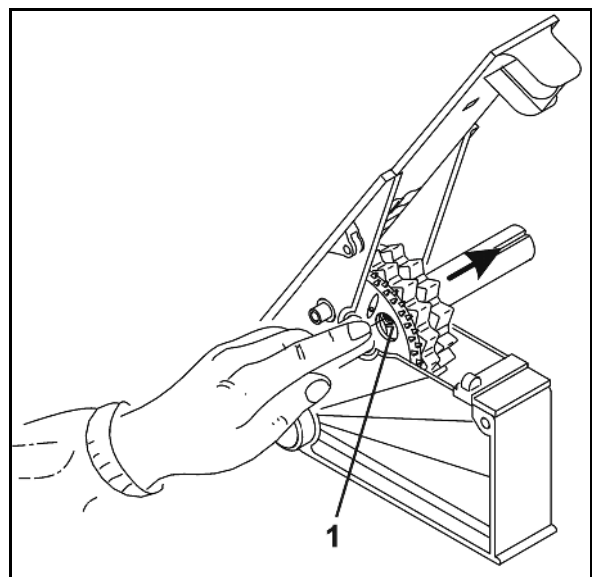

Fig. 31
1. Move the gearbox setting lever (Fig. 31/2) repeatedly up and down until the holes (Fig. 31/1) of the fine seed metering wheels are visible.